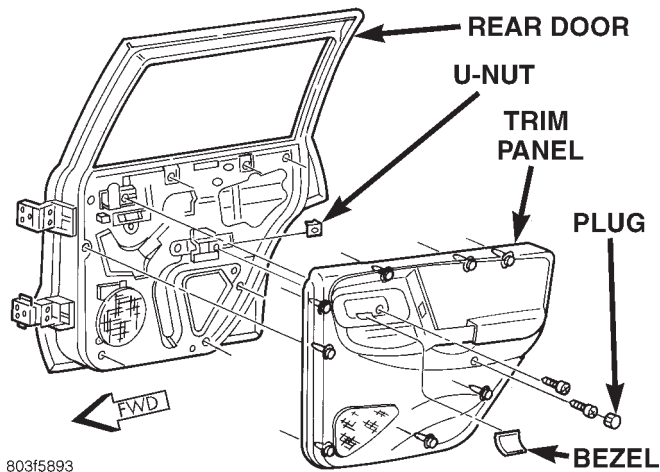

Fig. 5 Rear Door Trim Panel Remove/Install
(1) Disconnect and isolate the battery negative cable.
(2) Remove the bezel near the inside door latch release handle by inserting a straight-bladed screwdriver in the notched end and prying gently upwards.
(3) Remove the door trim panel mounting screw located in the bezel opening near the inside door latch release handle (Fig. 5).